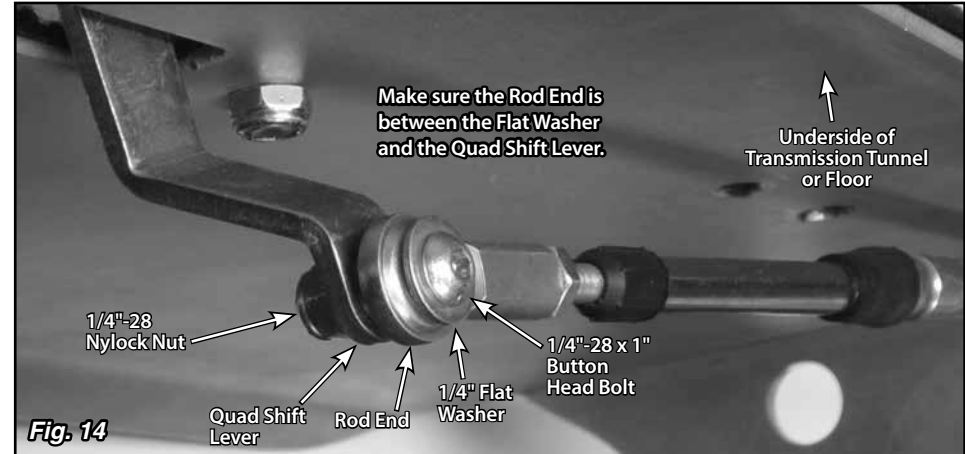

Fig. 14
Step 15: Route the cable up to the Shifter and attach the other rod end to the quad shift lever using a 1/4"-28 x 1" button head bolt, flat washer, and nylock nut. **Fig. 14** The button head bolt can be installed from either direction, but make sure the rod end is sandwiched between the quad shift lever and the flat washer. When routing the cable, make sure it is not touching the exhaust or any moving parts. The cable should be routed as smoothly as possible without any sharp bends.